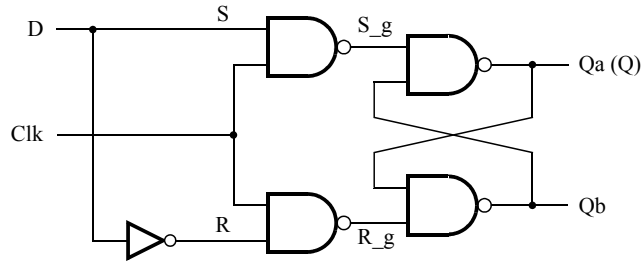
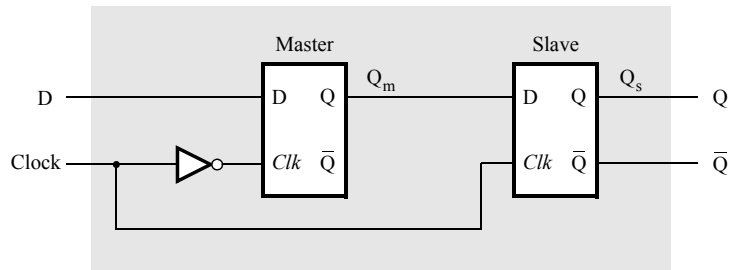

Figure 4: Circuit for a gated D latch.
Figure 5: Circuit for a master-slave D flip-flop.
Figure 4 shows the circuit for a gated D latch.
Consider the circuit for a gated D latch, shown in Figure 4 above.
Figure 5 shows the circuit for a master-slave D flip-flop.
2. Write a Verilog file that instantiates the three storage elements. For this part you should no longer use the `/* synthesis keep */` directive from Parts I to III. Figure 7 gives a behavioral style of Verilog code that specifies the gated D latch in Figure 4. This latch can be implemented in one 4-input lookup table. Use a similar style of code to specify the flip-flops in Figure 5.